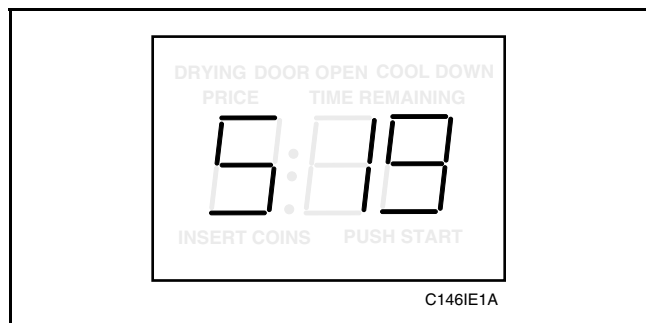

Figure 13
2. While pressing and holding the HIGH TEMP pad with one hand, press the MED TEMP pad with the other hand. Programmable option number 1, (Audio Signal “SIg”), will appear in the VFD, *Figure 13*.